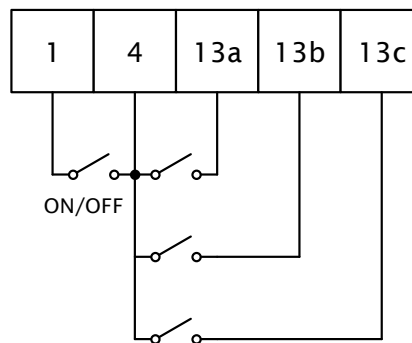

Figure 6.13: Eight Speed Motor
- 9. Build the control circuit shown in Figure 6.13.